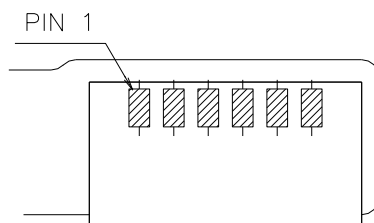

Figure1. Top View of LED Bar Connector
- Contrast measurements shall be made at viewing angle of $\theta = 0^\circ$ and at the center of the LCD surface. Luminance shall be measured with all pixels in the view field set first to white, then to the dark (black) state. (See FIGURE 1 shown in Appendix) Luminance Contrast Ratio (CR) is defined mathematically.